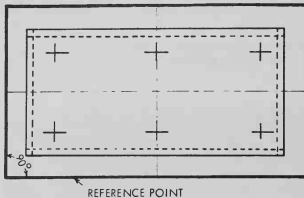

Fig. 4-18. Laying out location of holes to be drilled in stock.
11. Lay out centers for holes. Locate all holes by measuring from two reference points and mark this area with two intersecting lines, Fig. 4-18. Make a small mark with a prick punch where these two lines intersect.